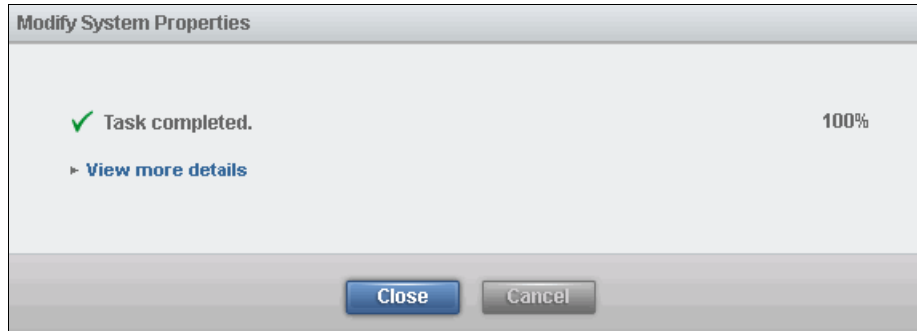

Figure 2-23 IBM Storwize V3700 tasks
- The IBM Storwize V3700 shows the CLI as you go through the configuration steps. Click **Close** when the tasks complete, as shown in Figure 2-23.